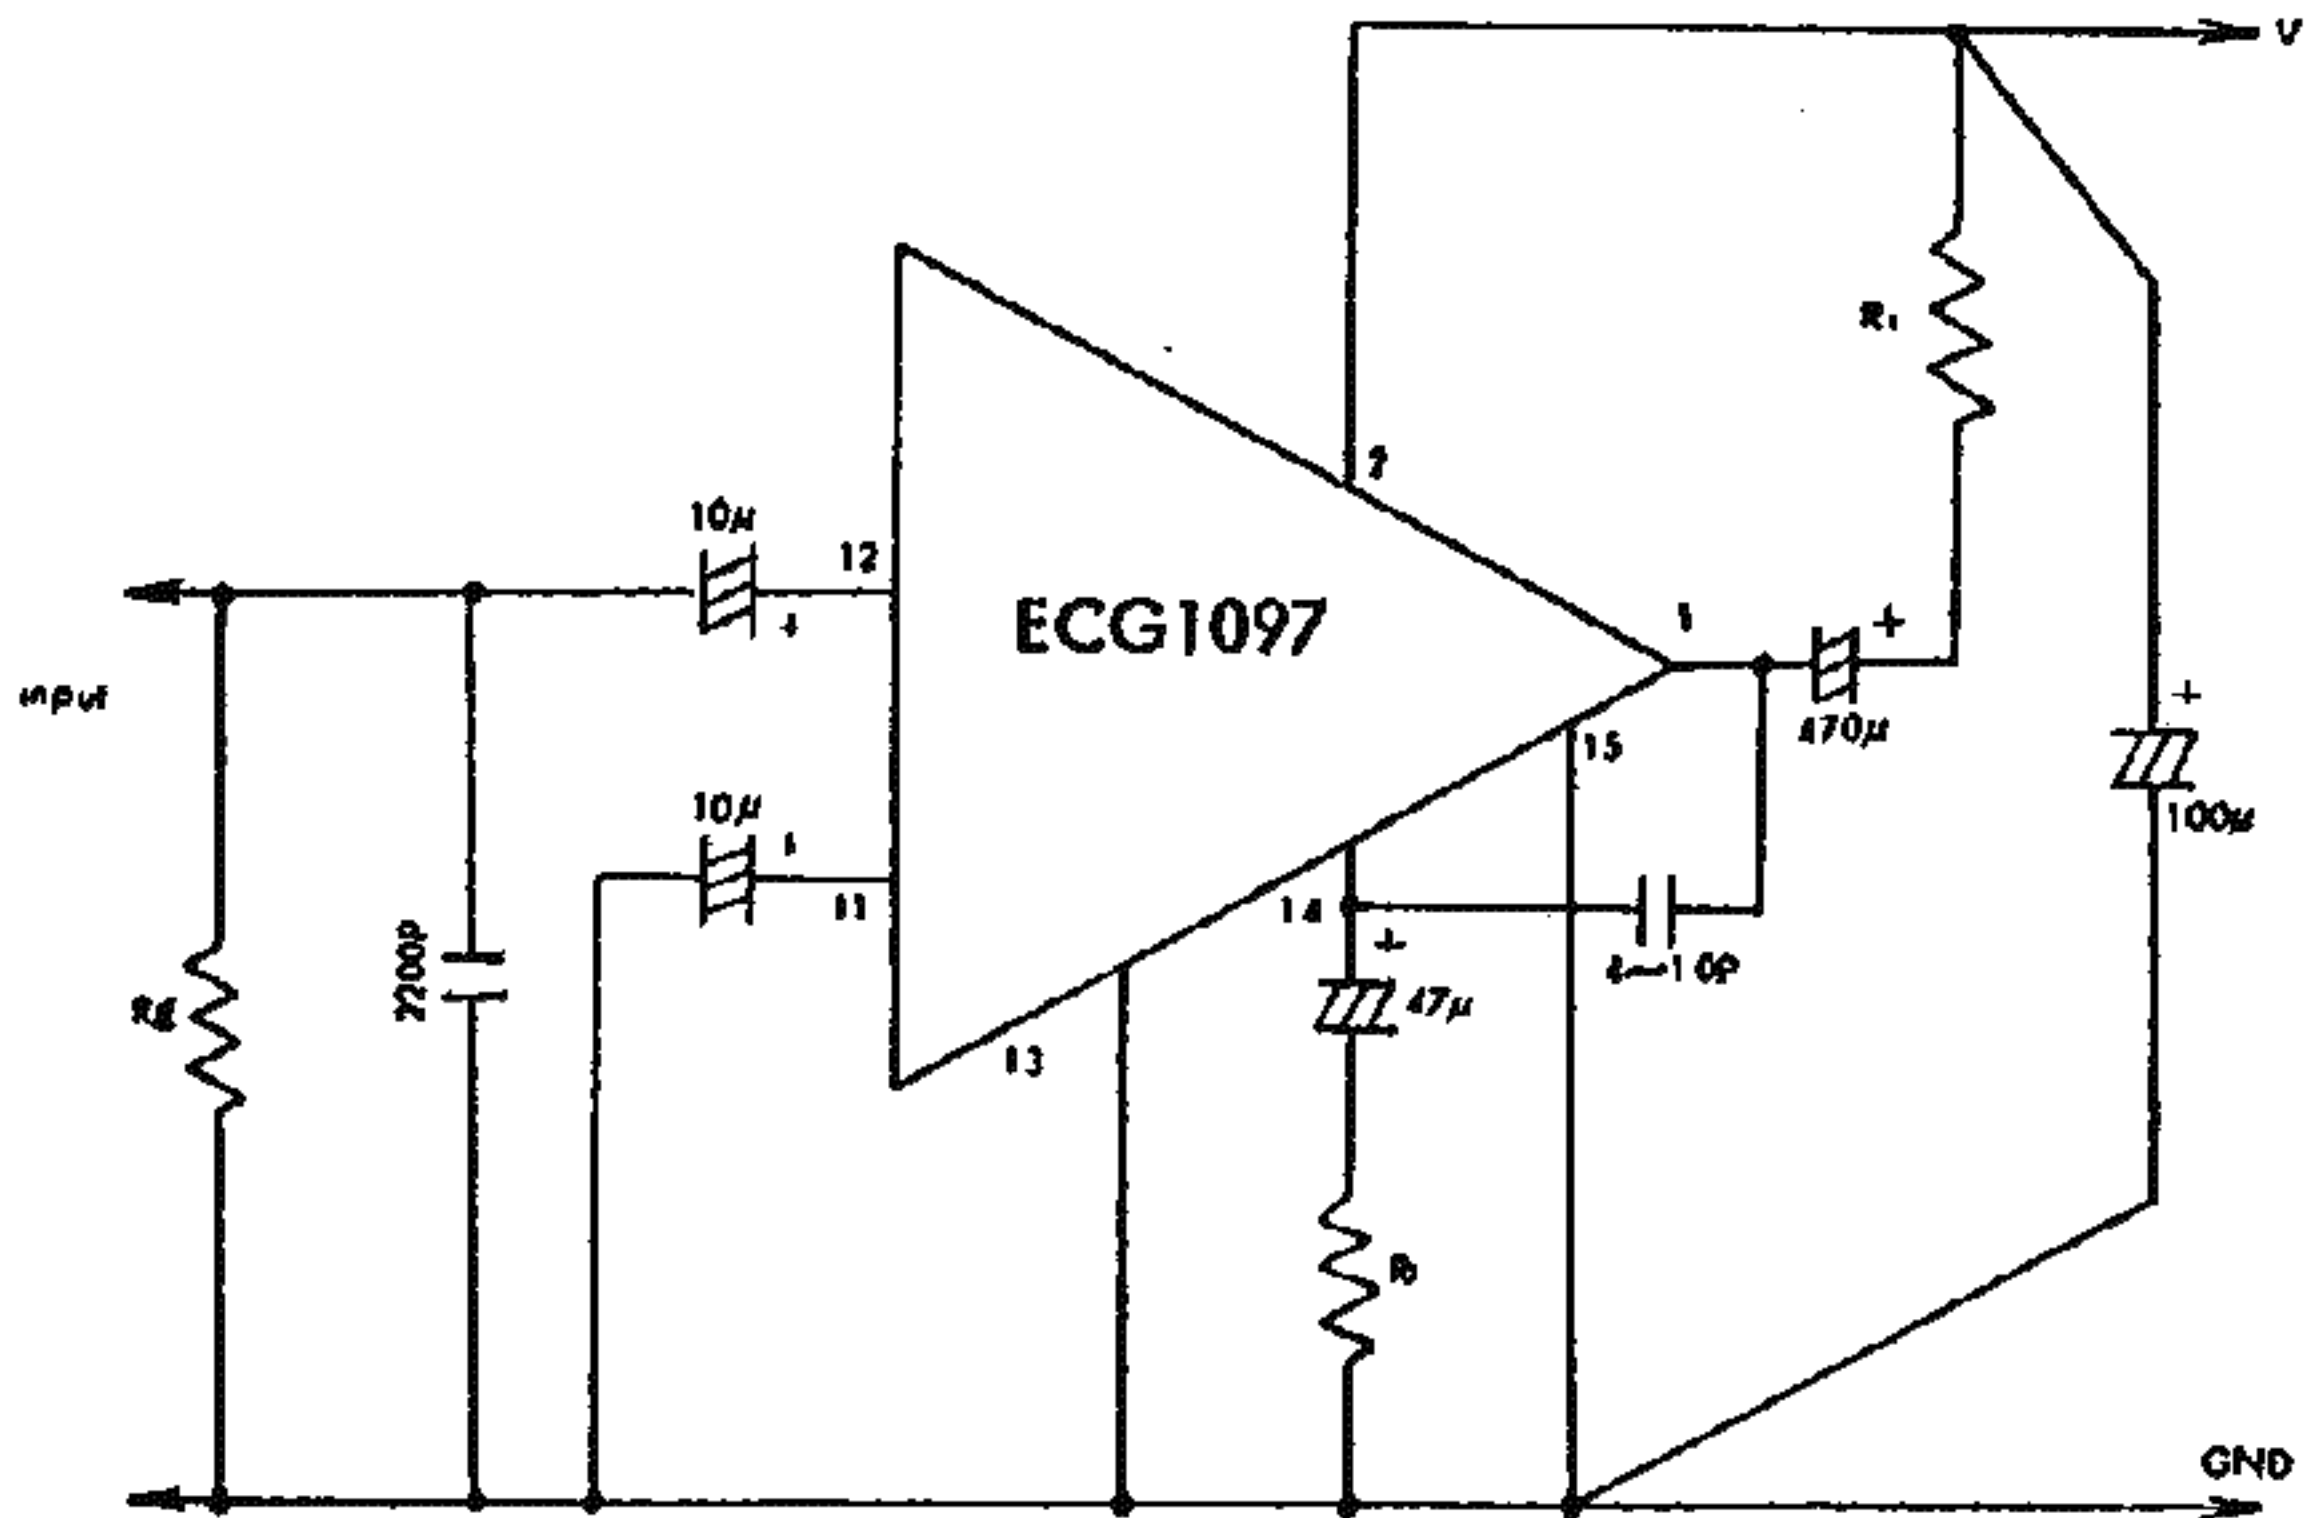

Fig.15 Arrangement of ground points
- (1) General care should be taken with respect to component layout, lead length and ground wiring. Especially, (-) sides of power supply and power supply capacitor (100μF in the above figure) should be put near to the terminal 15. Fig.15 shows how to place ground points.
- (2) Closed Voltage Gain G_v is given by